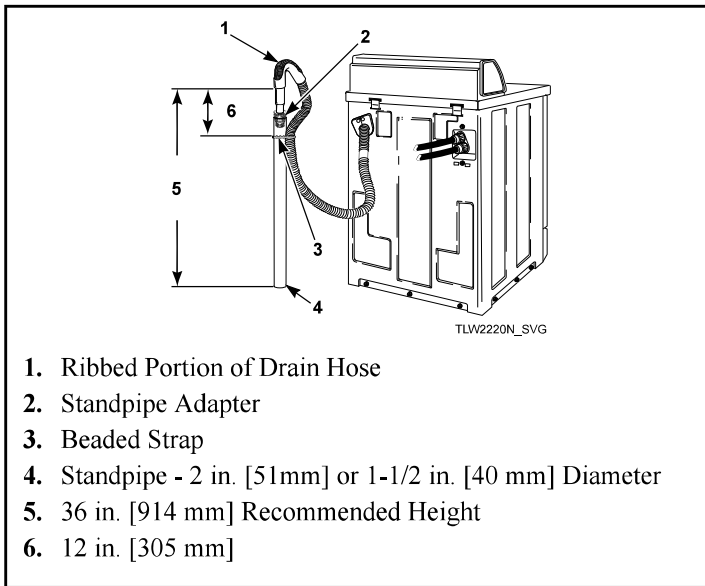

Figure 5
3. Remove the beaded strap from accessories bag and place around standpipe and drain hose, approximately 12 inches [300 mm] down from the top of pipe. Refer to *Figure 5*.